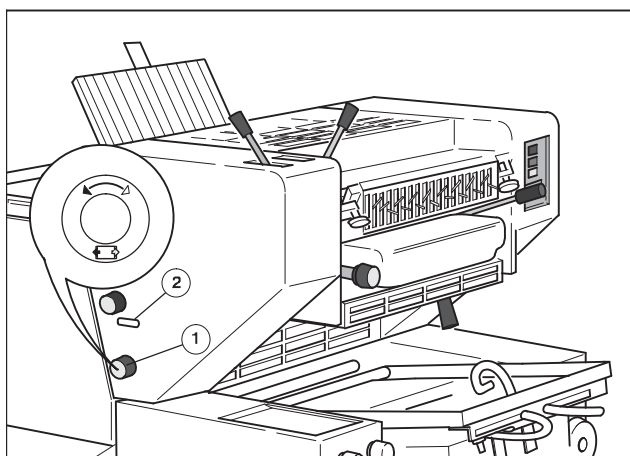

Fig. 16 Circumferential register, PU 2
The printed image can be moved **while the press is running** by turning with the control knob on PU 2 on O.S. (Fig. 16/1) ± 2 mm in the circumferential direction.
1. Press in control knob (Fig. 16/1) and turn.
2. Read the setting at the scale (Fig. 16/2).